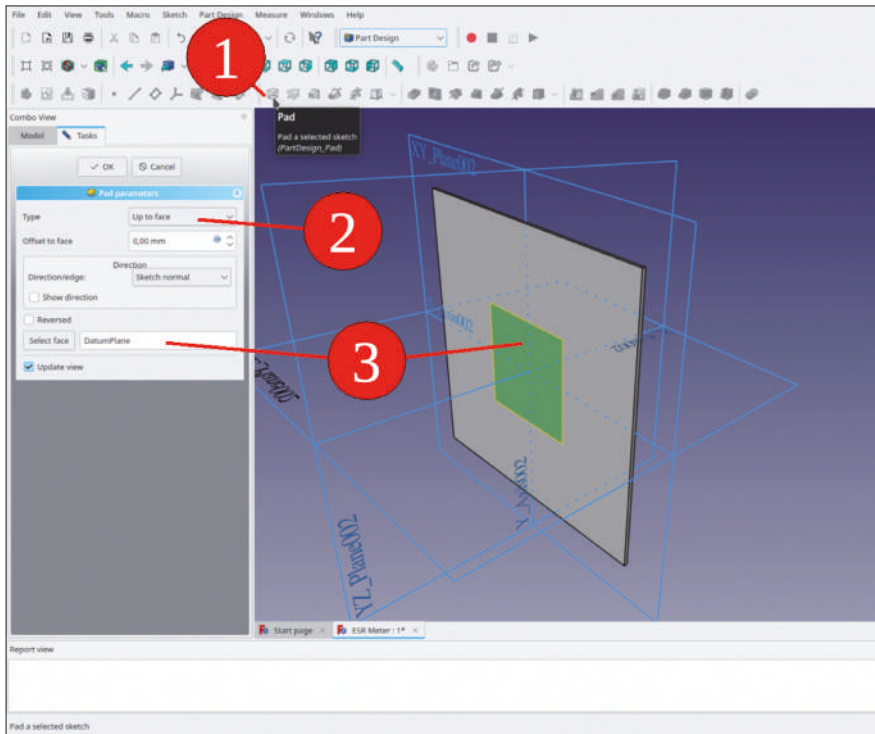

Figure 7-4
5. In the tree view, mark the new sketch and click the 'Pad' tool button. In the task window, set the type to 'Up to face'. Then, in the 3D view, click the representation of the datum plane (Figure 7-4). Close the task window with the 'OK' button.